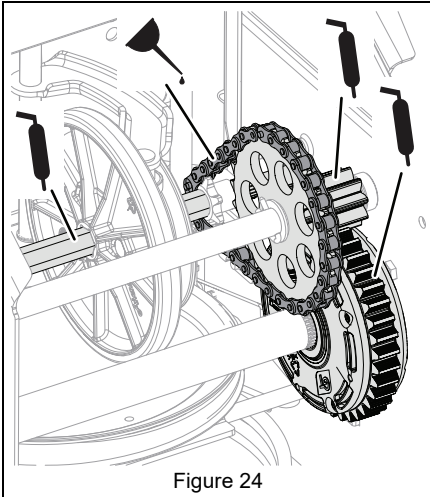
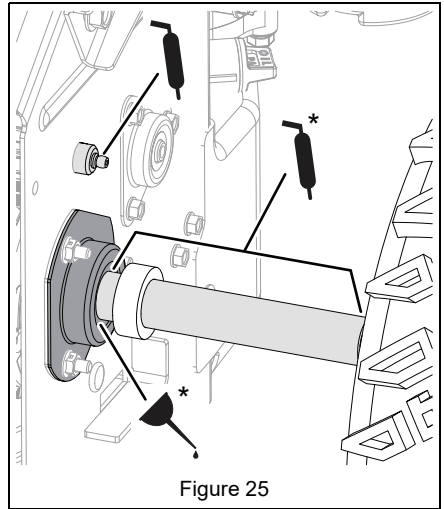

Figure 24
Figure 25
2. Lubricate as shown in Figure 24 and Figure 25.